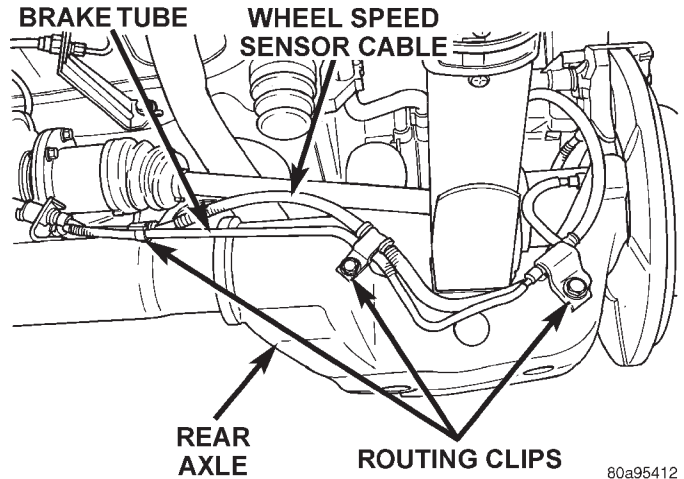

Fig. 45 Rear Speed Sensor Routing Brackets And Clips
(5) Remove the rear wheel speed sensor cable/brake tube routing clips (Fig. 45). Then un-clip the speed sensor cable from the routing clips on rear brake tube (Fig. 45).